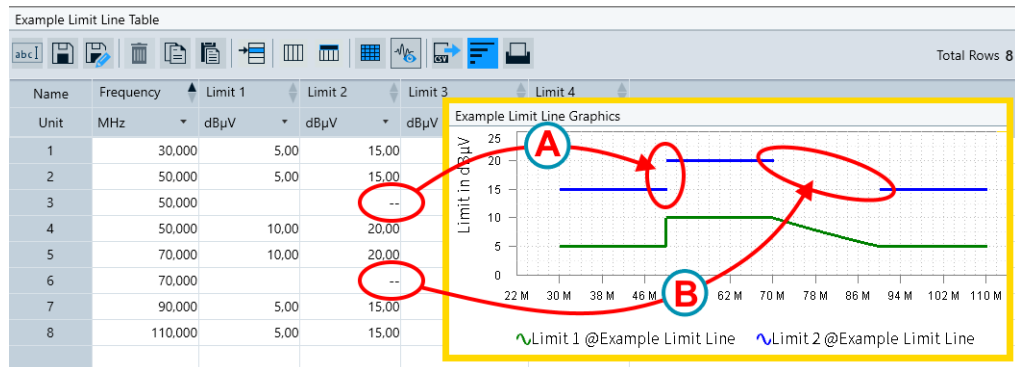

Figure 4-181: Examples of entries in a limit line table, and resulting graphics
- For a "vertical gap" (labeled (A) in Figure 4-181), use the same frequency as in the 1st row
- For a "horizontal gap" (labeled (B) in Figure 4-181), use any frequency between the 1st row and the 3rd row